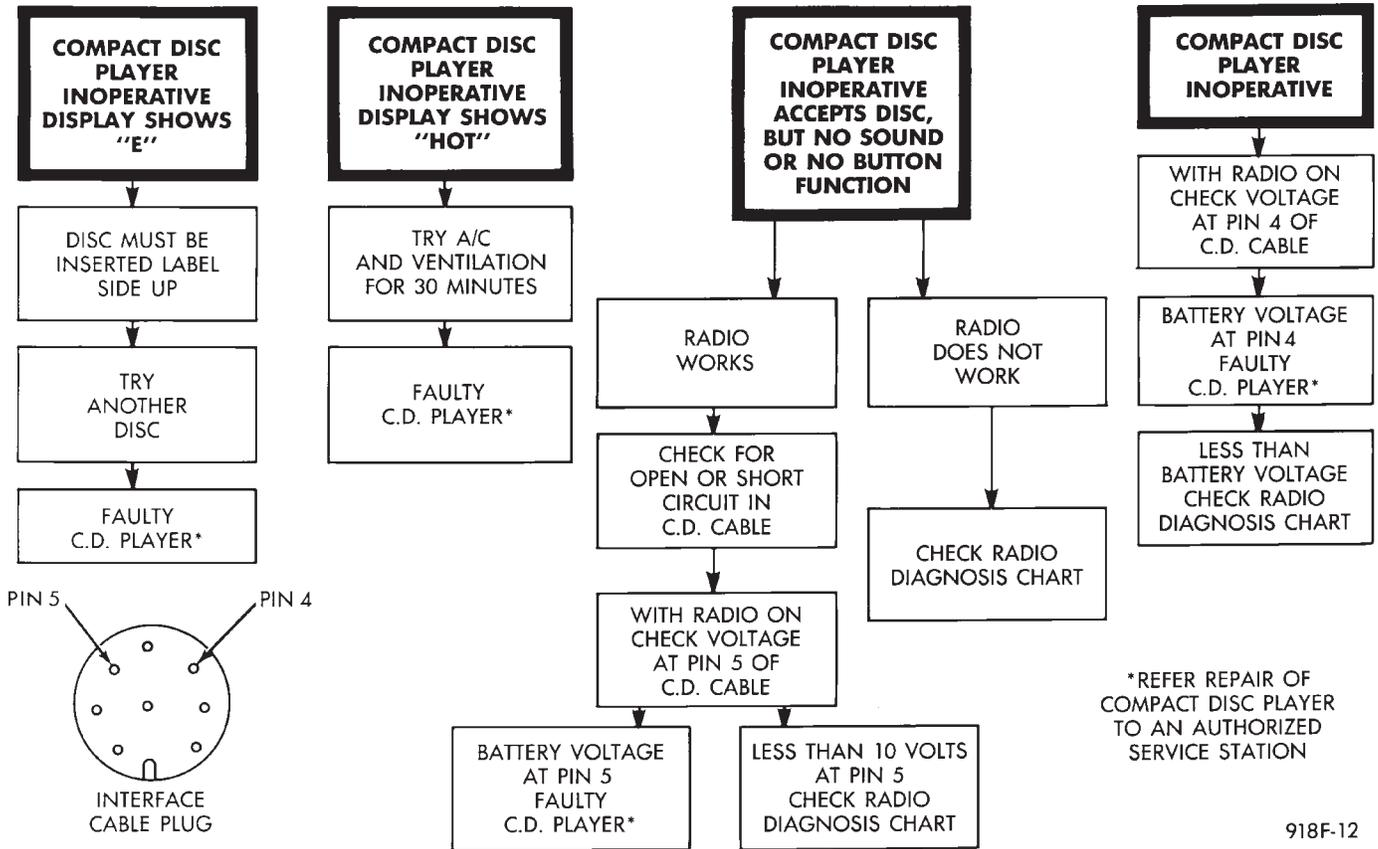

Fig. 37 Compact Disc Player Diagnosis
- If the CD player becomes too hot at temperatures above 60°C (100 °F) the CD player will shut down with a display of HOT until it cools down. Refer to the compact disc player diagnosis chart (Fig. 37).